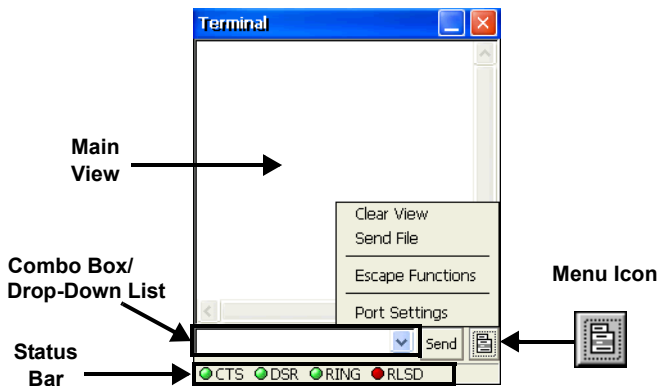

Figure 3-3. Terminal Pop-up Menu
- The menu icon in the lower right corner of the *Terminal* dialog box opens the pop-up menu of four options (Figure 3-3).